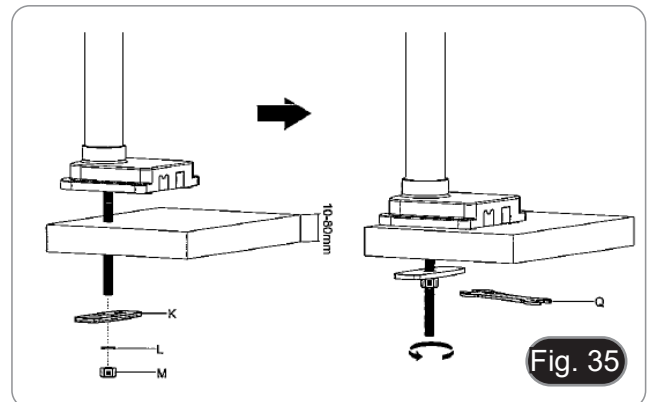

Fig. 35
6. Insert the screw (I) into the hole of the table.
7. Fix the assembly using the fixing plate (K), the washer (L) and the nut (M).
8. Tighten the nut using the spanner (Q). (Fig. 35)